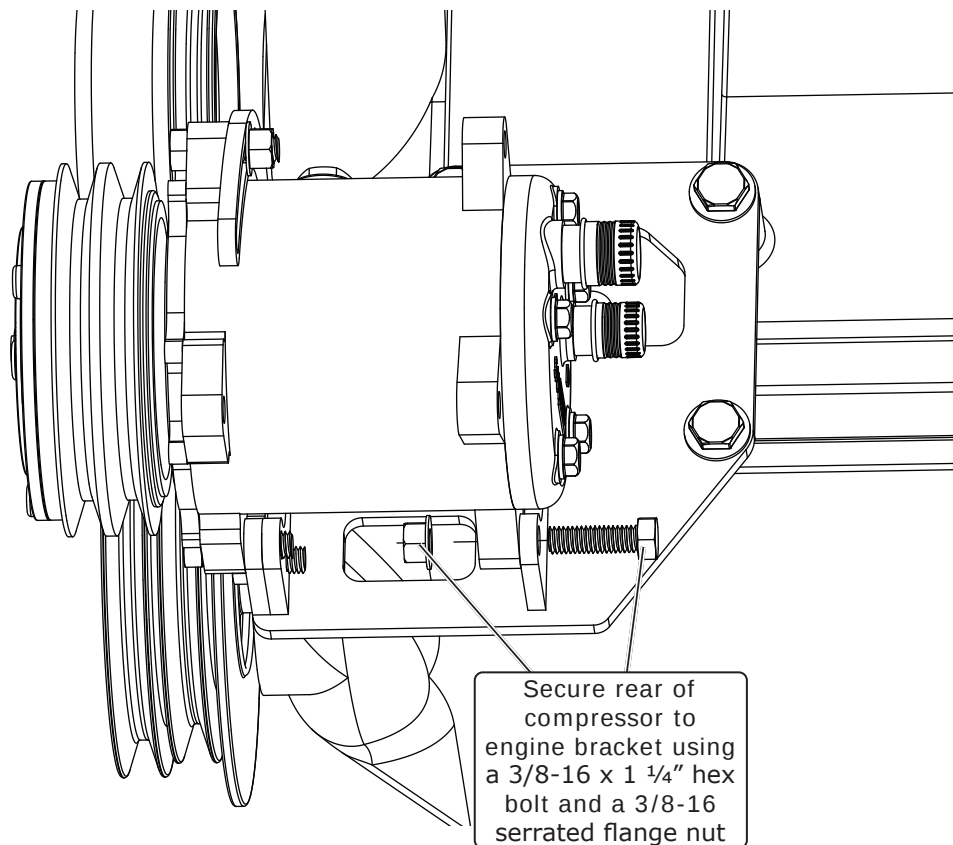

Figure 6
8. Secure the rear of the compressor to the engine bracket using a 3/8-16 x 1 1/4" hex bolt and a 3/8-16 serrated flange nut as shown in Figure 6, below. Leave loose.